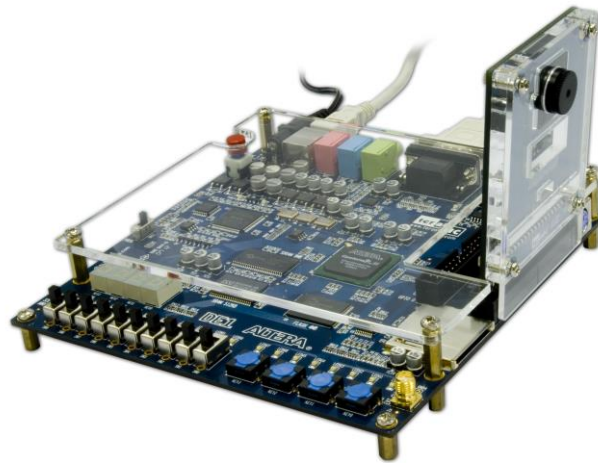

Figure 3-6 The Connection Setup for DE1 users
1. Ensure the connection is set correctly as shown in **Figure 3-6**. Make sure the D5M is connected to **JP2 (GPIO 1)** of the DE1 board.